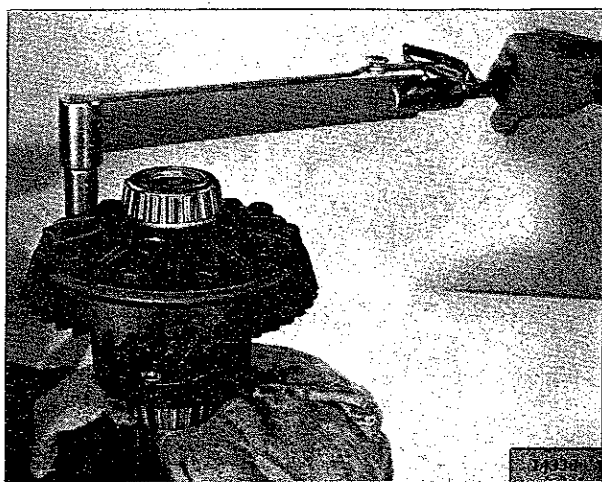

FIG. N-58—TORQUING RING GEAR SCREWS
d. Assemble ring gear to new Trac-Lok case. Follow the same steps as illustrated in Fig. N-58. Make sure the gear flange on the differential case is free of nicks, burrs, etc.